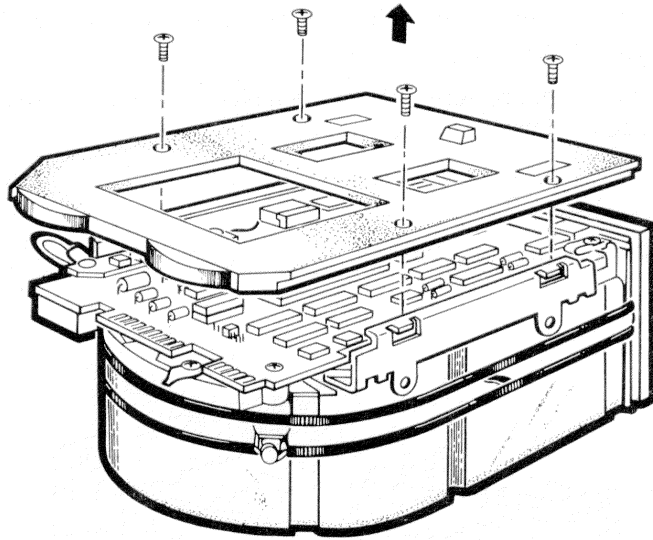

Figure 6-8 Slide Plate Removal
1. Remove the four phillips screws retaining the slide plate and ground clip. Set the slide plate aside. (Figure 6-8)